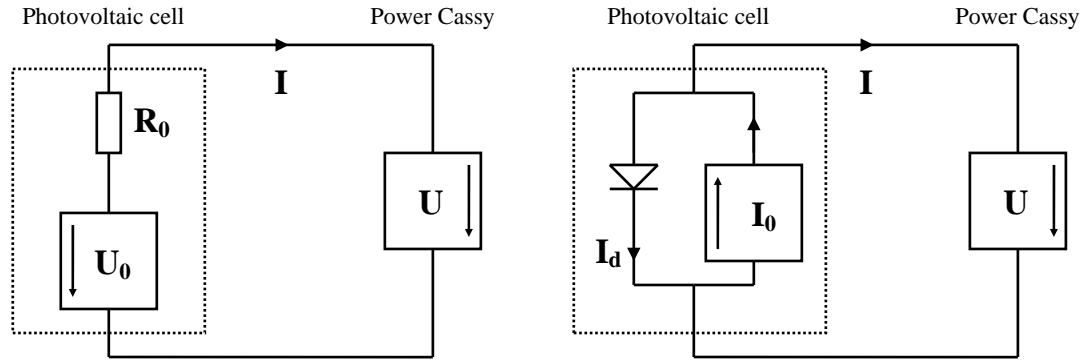

Figure 3: Two circuit models of the system under study. Directions of current and voltages are consistent with a solar cell performing work on the load.
For a *very* simplified model of the Power Cassy connected to the solar cell we introduce the circuit on the left of figure 3. With the directions as defined in the figure we have  $U = U_0 - IR_0$  so that the applied voltage has the same effect as applying an external load with resistance  $R = -U/I$ . The power done *on* the load resistor in this case is  $P = (-U)I$ . A more exact model of the solar cell is provided by the circuit in the right of figure 3, consisting of a parallel connected ideal diode and ideal current source. Only the first model shall be used later to analyze the behavior of the solar cell.
5. Show that for a voltage source with internal resistance  $R_0$ , the optimal load which maximizes the power output is  $R_0$ . What should the voltage  $U$  be at the point of maximum power? Is this fulfilled in your measurements? This corresponds to the predictions of the circuit model in the left of figure 3.